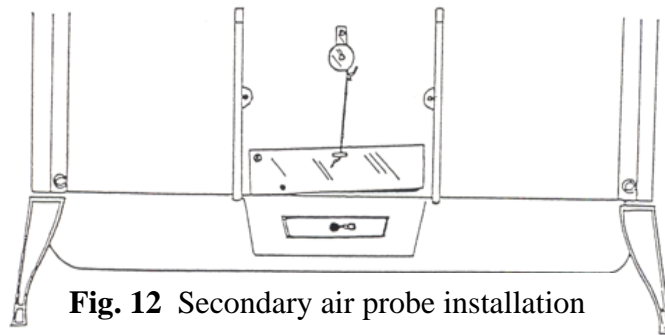

Fig. 12 Secondary air probe installation
24. Install the secondary probe assembly see **Fig. 12** for positioning guidance. If necessary, loosen the lock nuts on the probe shaft and adjust the position of the tab on the thermostat coil so that it is at 4 'o' clock as you face it from the rear, with the mounting tab at 12 'o' clock.